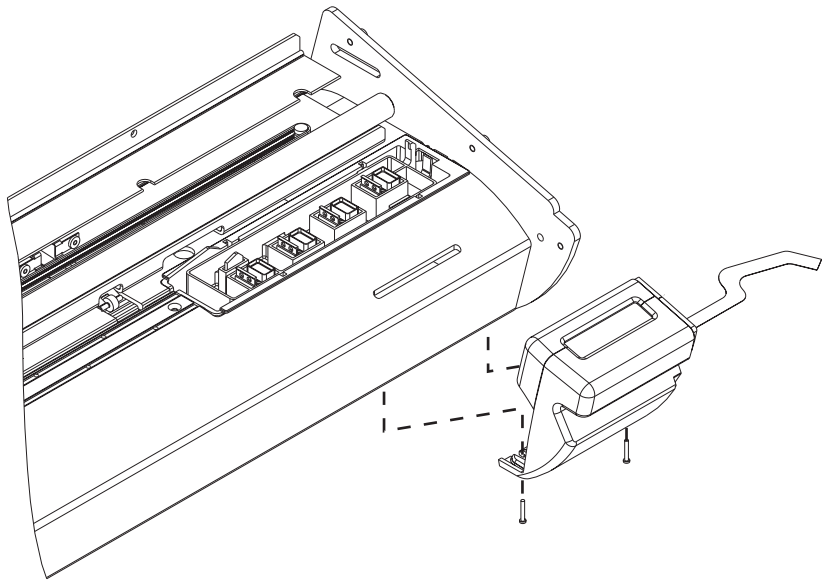

Figure 5-7. Removal of Display Assembly.
4. Using a #1 Phillips screwdriver, remove the 2 screws from the bottom of the Display Assembly. See Figure 5-7.